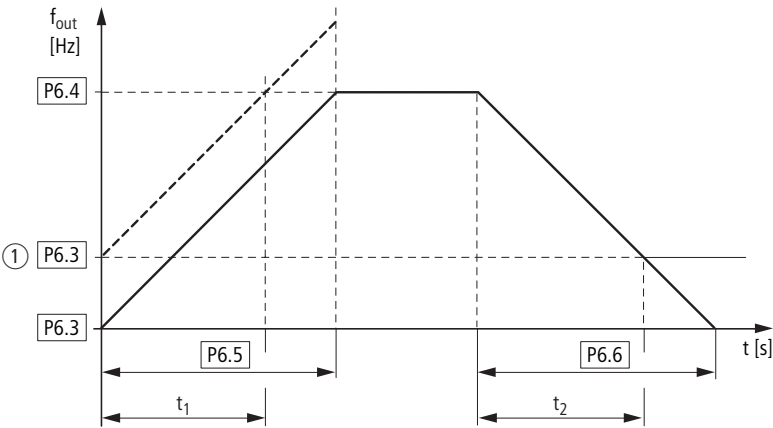

Figure 103:Acceleration and deceleration time
0.1 - 3000.0 s (→ Figure 103 below)
0.1 – 3000.0 s (see Figure 103 below)